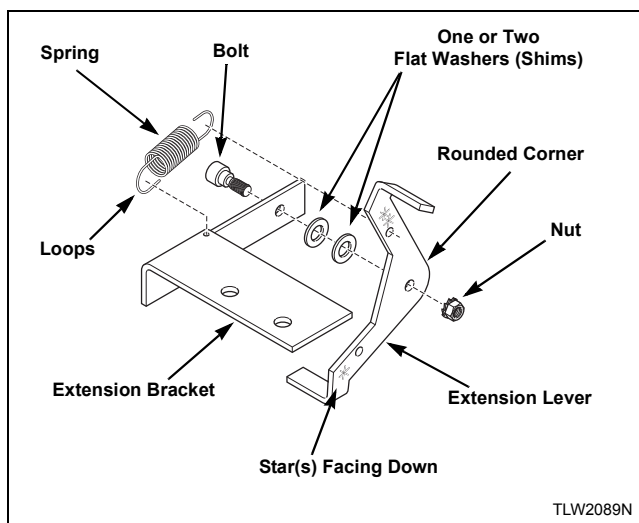

Figure 26
4. Install extension lever with rounded corner facing away from extension bracket using bolt, one or two flat washers (shims) (use number of washers included in kit) and nut. Refer to *Figure 26*. Make sure washers are flat against bracket.
6. Install extension spring in bracket hole and hole in upper arm of lever. Refer to *Figure 26*.